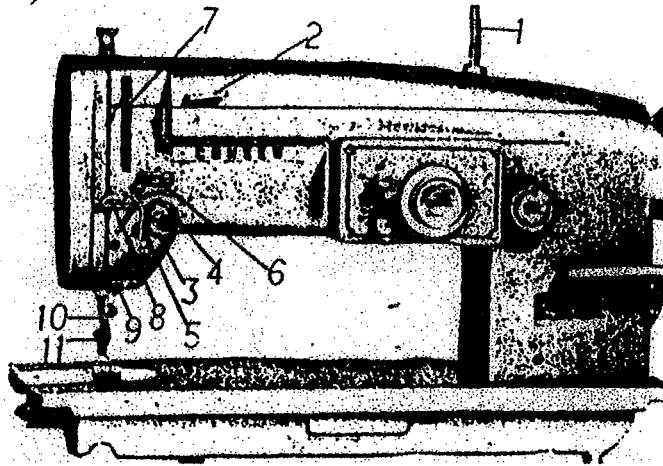

Fig. 5
Starting from the spool pin (1), please lead the thread while following the numerical progression depicted in Fig. 5.
- (1) Spool pin (2) Three hole thread eyelet (3) Tension disc (4) Tension spring (5) Tension post thread guide
- (6) Upper arm thread guide (7) Take up lever (8) Tension post thread guide (9) Lower arm thread guide
- (10) Needle bar thread guide (11) Needle